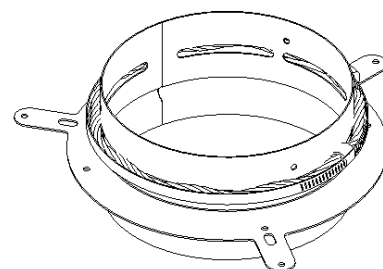

Figure 3-5: 6CON Liner Connector
The Astra Duo fireplace can be connected to a masonry chimney that complies with current national and municipal building codes. A 6 inch chimney liner that complies with ULC S635 M2000 (Canada) or UL 1777 (US) standards must be installed within the existing masonry chimney. Note that the 6CON connector (manufactured by SUPREME FIREPLACES INC.) must be installed to connect the prefabricated chimney to the liner (6CON sold separately). Refer to Figure 3-5 and Figure 3-6.